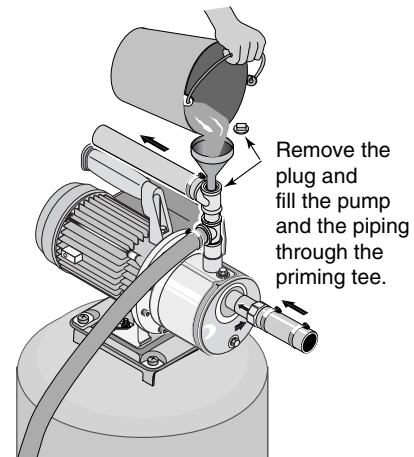

Figure 5: Prime the Pump
PREPARING TO START THE PUMP (REFER TO FIGURE 5)
1. Remove the priming plug from the priming tee and fill the pump. Fill all piping between the pump and the well and make sure that all piping in the well is full. If you have also installed a priming tee in the suction piping, remove the plug from the tee and fill the suction piping. See Figure 5.